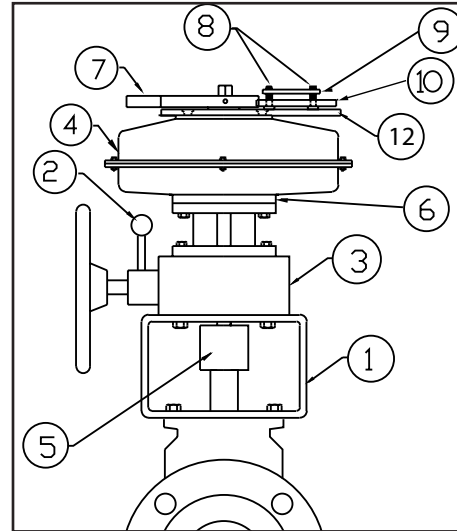

FIG. 3 ASSEMBLY DRAWING FL-HT-0600
4. Remove the top nuts on link retaining studs #8 on FL-HT-0600 (Fig. 3) that hold links.